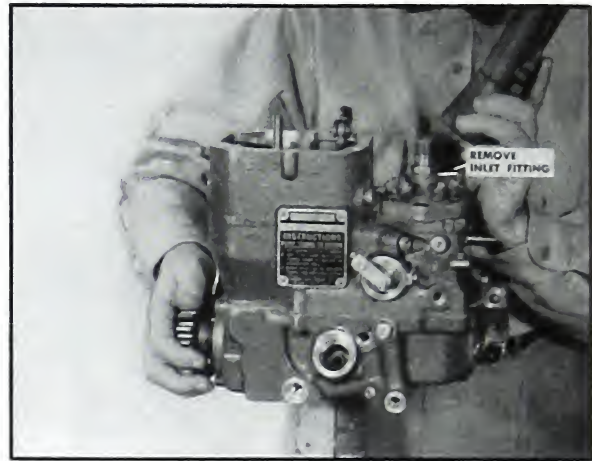

Fig. 5-341. Align filling hole
2. Align the filling hole in discharge disc with the hole in the discharge cover (this is the connection that is drilled at an angle different from the others), by sighting through the hole while turning the camshaft. Fig. 5-341.